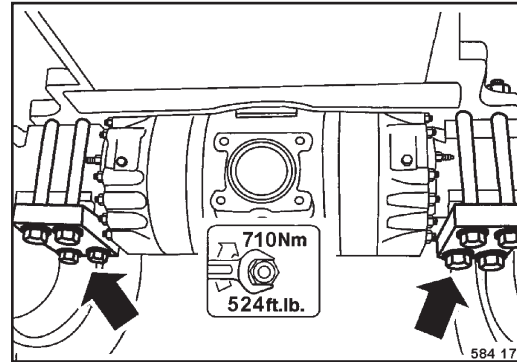

Fig. 138
- Check all fastening nuts on axle mounting bolts (Fig. 138) for tight fit.